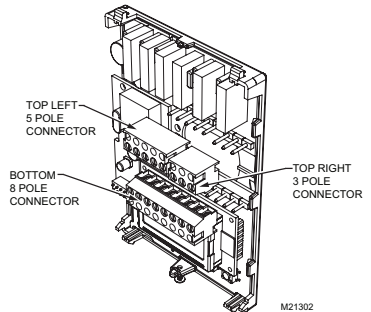

Fig. 4. Terminal blocks
13. Install wiring terminals in correct location (Fig. 4)